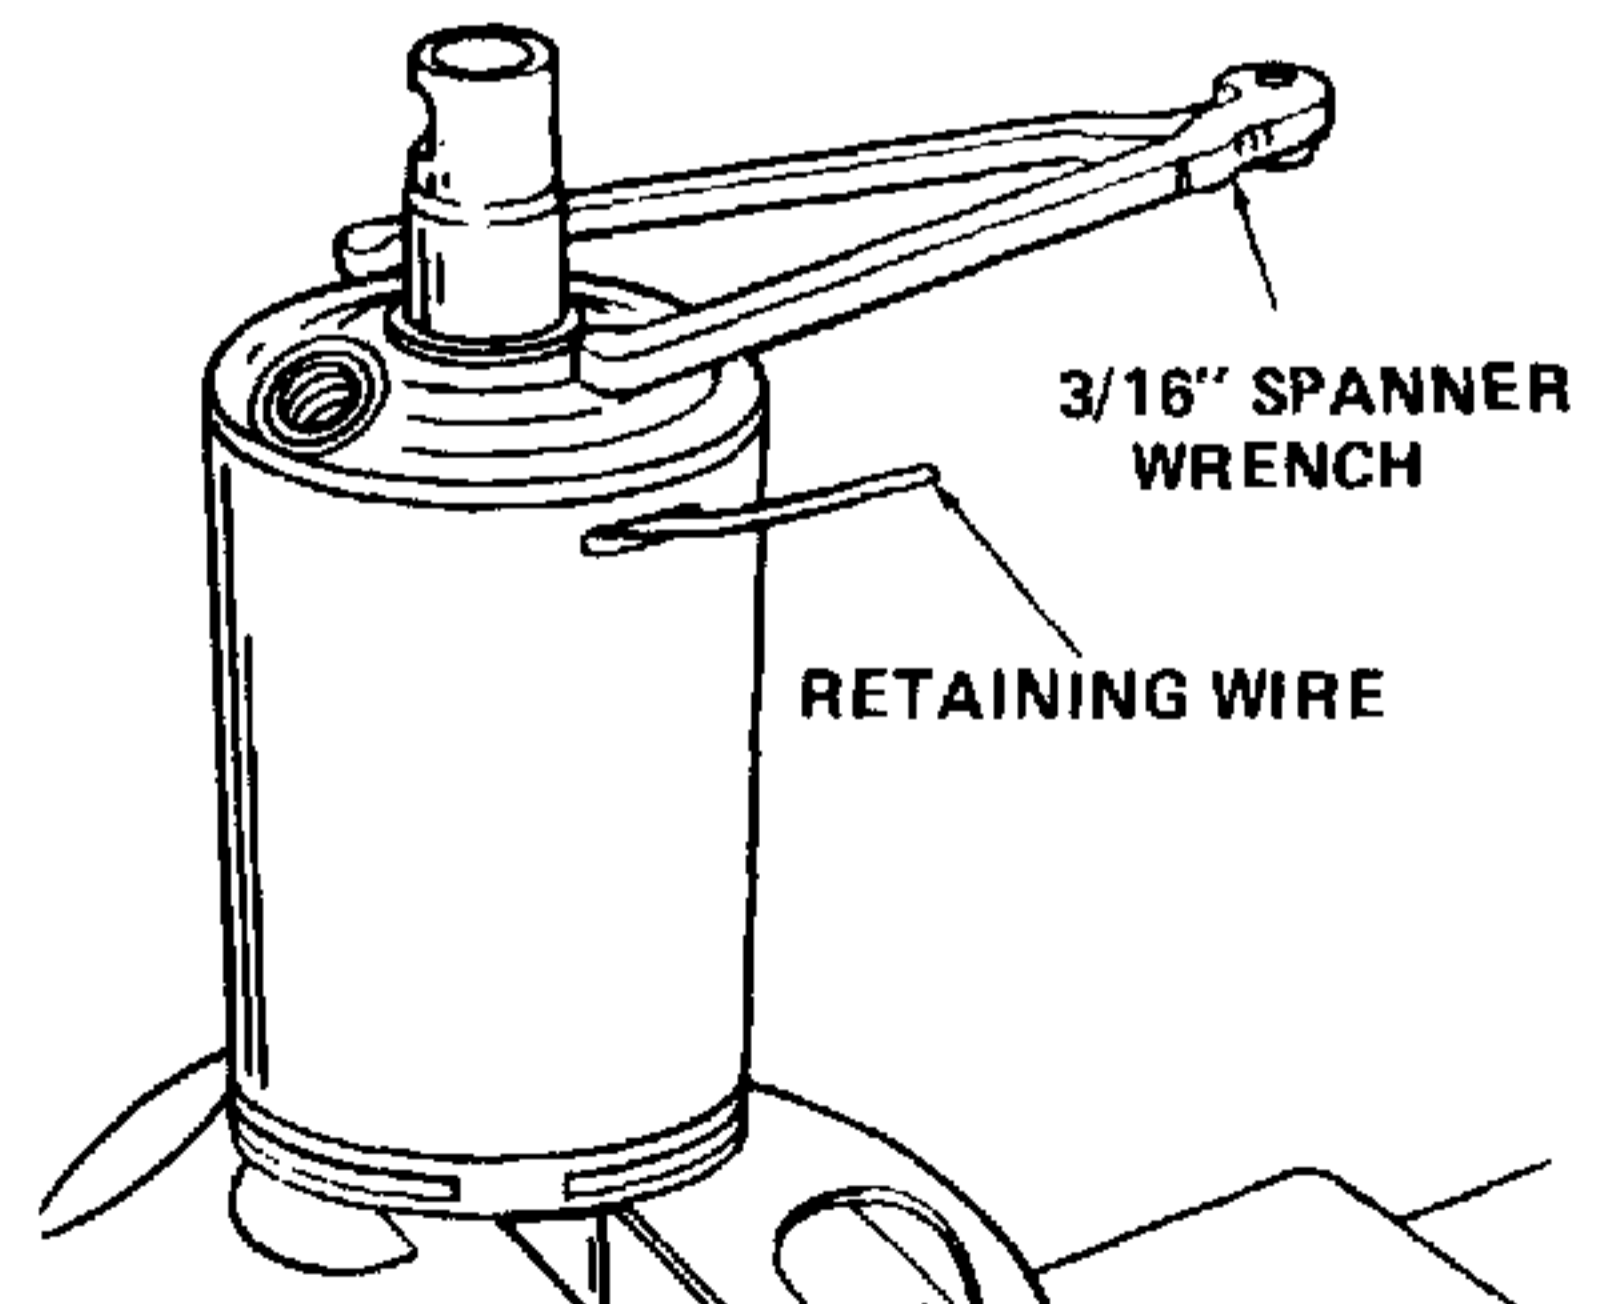

Figure 5-60. Removing Retaining Wire.
- (2) Insert pins of a 3/16 inch adjustable face spanner wrench into two holes of cylinder head. Turn head counterclockwise until end of retaining wire (3) appears in access hole of cylinder body. Refer to Figure 5-60.
- (3) Pry end of wire out of hole and continue to turn cylinder head counterclockwise to remove retaining wire.
- (1) Secure front end of cylinder in vise.